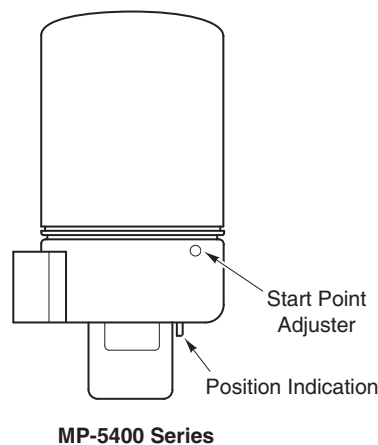

Figure-16 Start Point Adjuster for MP-5400 Series.
1. Using a screwdriver, pry and remove the plug button from the base of the actuator, to expose the start point adjuster. Refer to Figure-16.